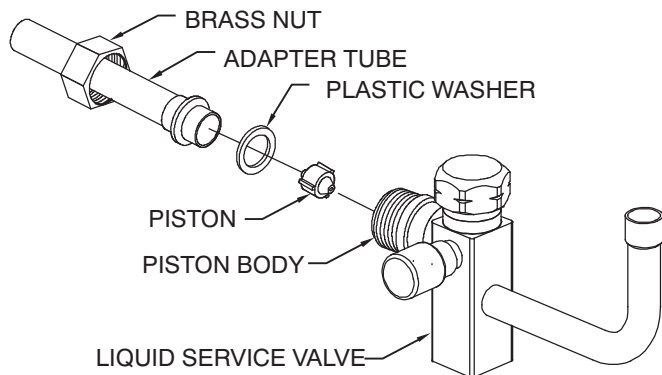

Fig. 3 – Liquid Service Valve with Heating Piston and Adapter Tube A14235
4. Remove Teflon seal from bag and install on open end of liquid service valve. (Fig. 3.)